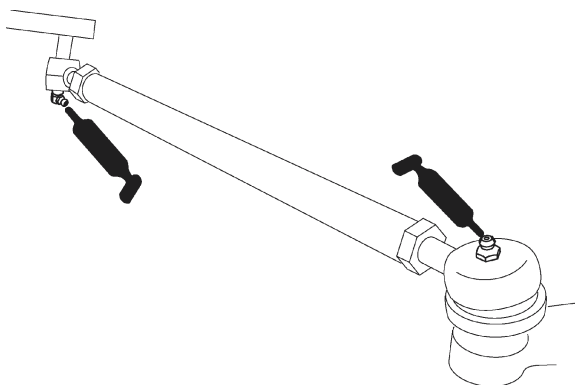
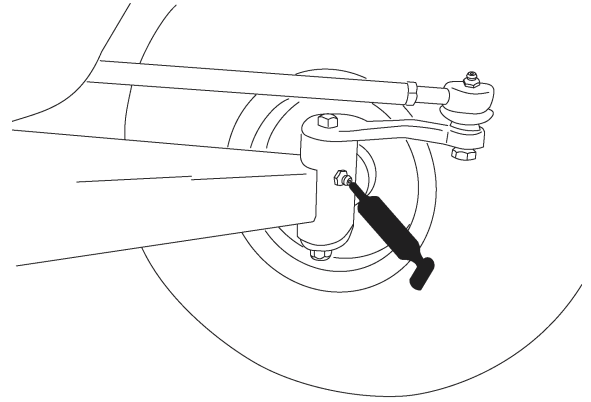
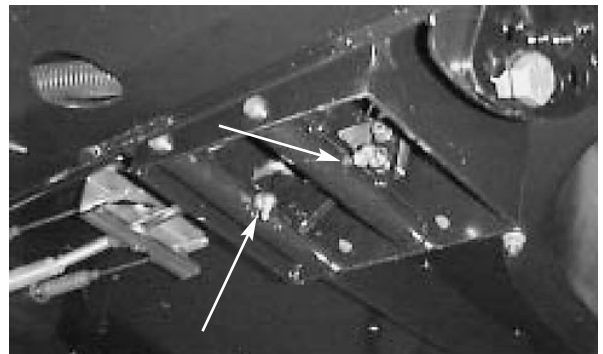

Figure 20
Figure 21
Figure 22
The grease fitting locations and quantities are: tie rod ends (4) (Fig. 20), king pins (2) (Fig. 21), and throttle and brake pedal pivots (2) (Fig. 22).